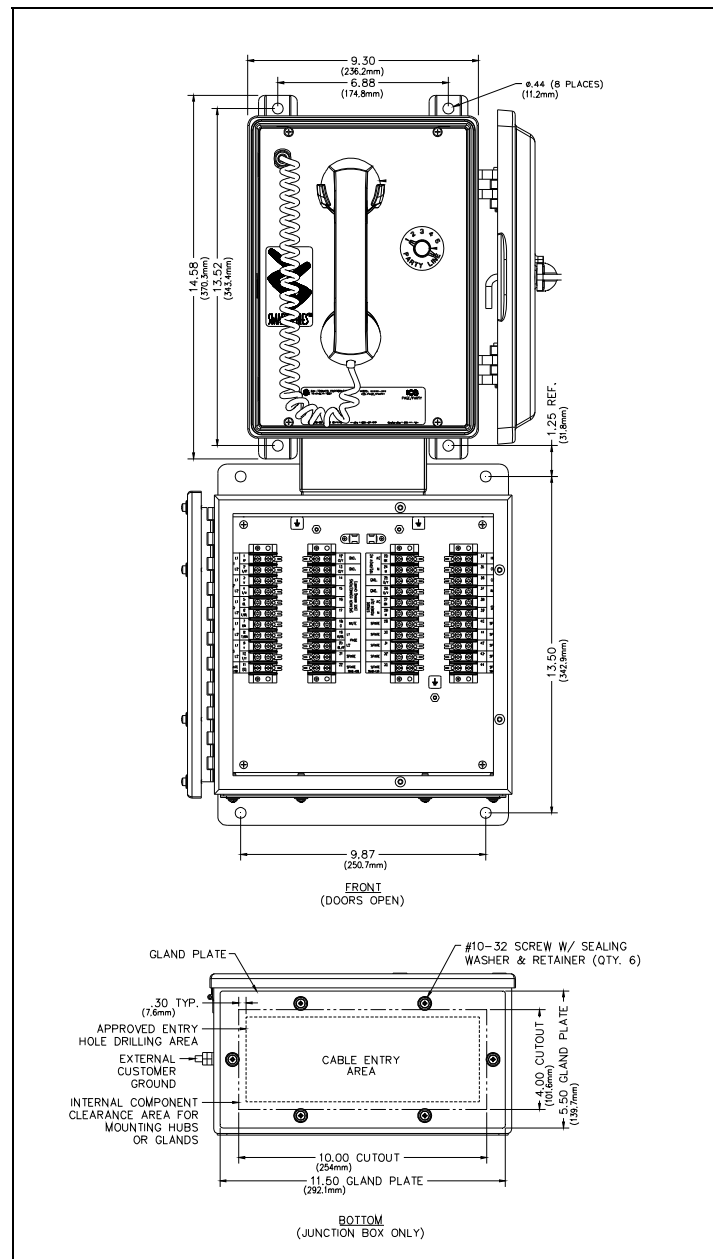

Figure 3. Cable Entries and Enclosure Installation
- The recommended entry is via the lower enclosure (junction box) bottom gland plate (see Figure 3).